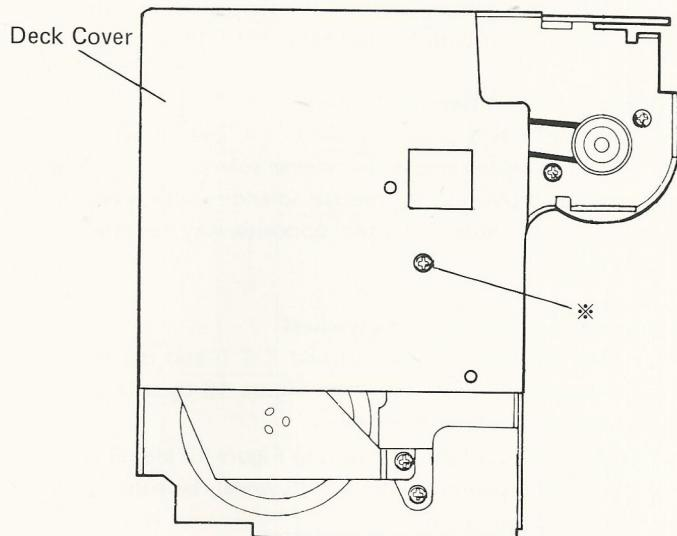

Figure 11
- (1) Remove one screw marked "※" as shown in Figure 11.